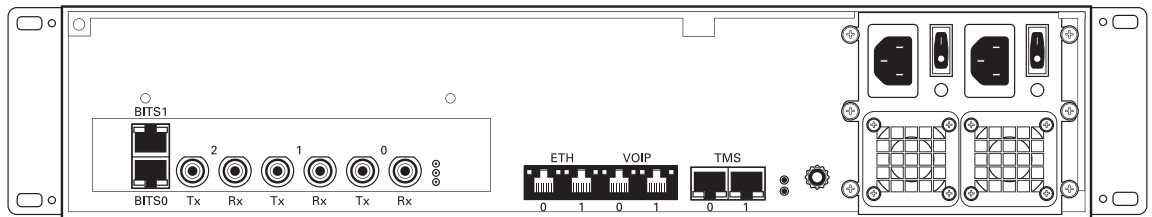

Figure 2.25 DS3 Interface to the PSTN
A TMG7800-DS3 with 3 sets of BNC connectors enables the connection to DS3 lines. See figure 2.25 on page 34.
1. Start with the Dual BNC port pair #0 (right-most) as shown in figure 2.25 on page 34. Connect one pair of BNC cables between this port and the DS3 line.